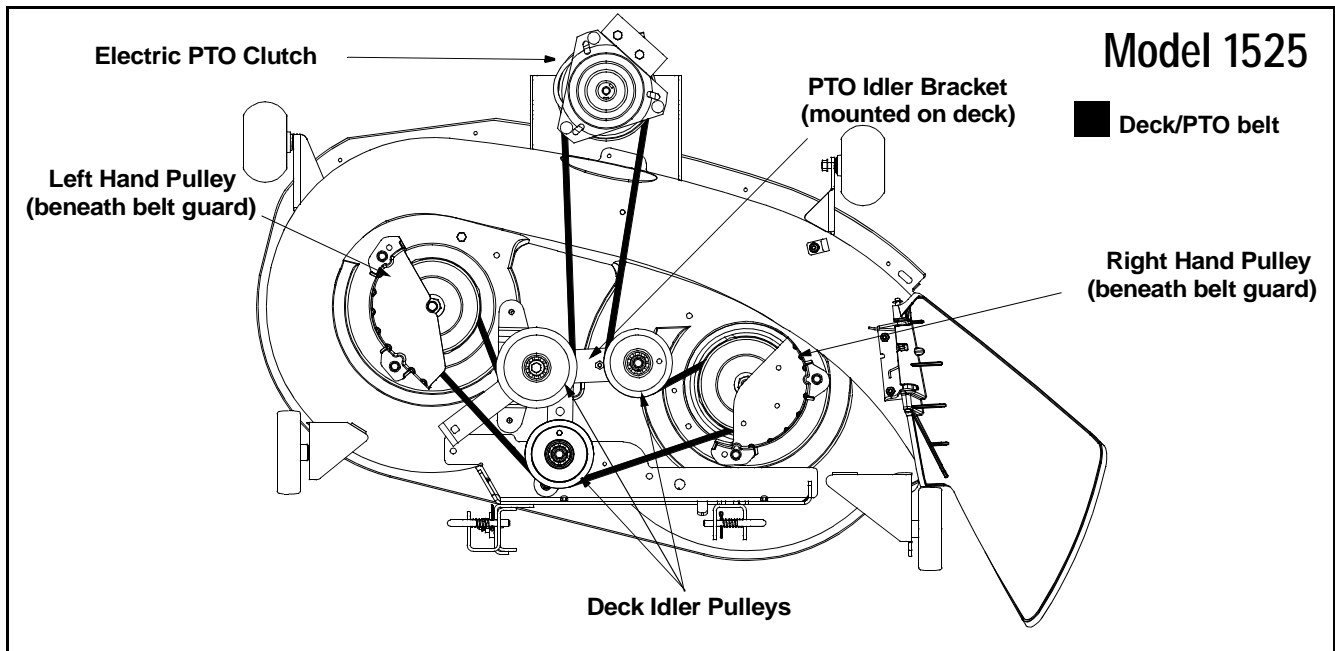
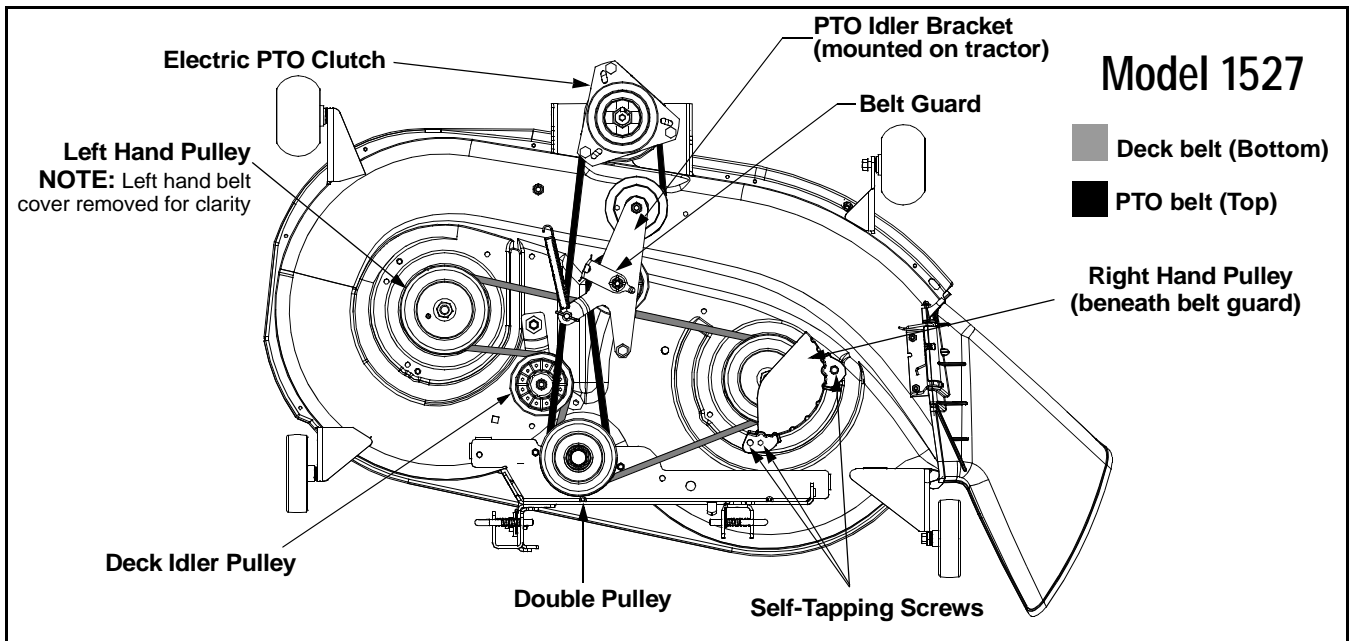

Figure 27
Figure 28
- Pull the PTO idler bracket (on deck of Model 1525; under center of tractor frame Model 1527) against its tensioner spring to loosen the tension on the PTO belt and allow the belt to be removed from around the tractor’s electric PTO clutch. Refer to Figure 27 or Figure 28.
- Remove the belt guards by removing the self-tapping screws that fasten them to the deck. See Figure 27.
- Install the new belt routing it exactly the same as the removed belt and as shown in Figure 27.
- Install the new belt routing it as shown in Figure 28. Make certain the belt is between the belt guard and flat idler pulley on the idler bracket.
- Remove the belt guards by removing the self-tapping screws that fasten them to the deck. See Figure 28.
- Pull the deck idler pulley away from the backside of the deck belt and lift the deck belt up above the idler pulley. Carefully release the spring tension from the idler pulley/bracket and remove the belt from the deck. See Figure 28.
- Pull the deck idler pulley toward the left side of the deck and position it against the backside of the belt as shown in Figure 28.